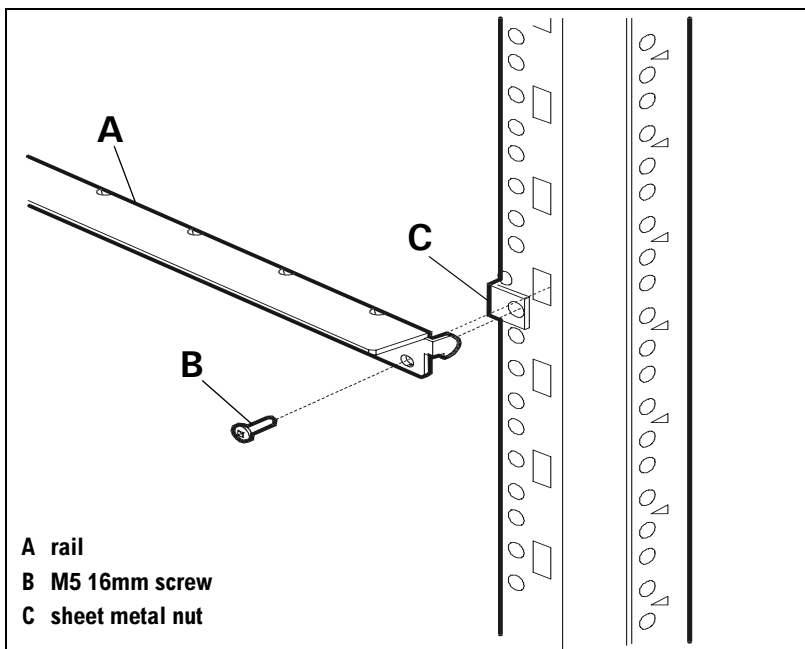

Figure 16 Rail Assembly – Legacy Racks
- a. Insert rail tabs into the selected slots on the right front and back columns. Make sure that the rail is level and that rail holes align with the sheet metal nuts (C in Figure 16) you just installed on the rack column.
- b. Insert one screw (B) through the rail (A) and prepared column holes (C). Tighten screws with a Torx T25 screwdriver.